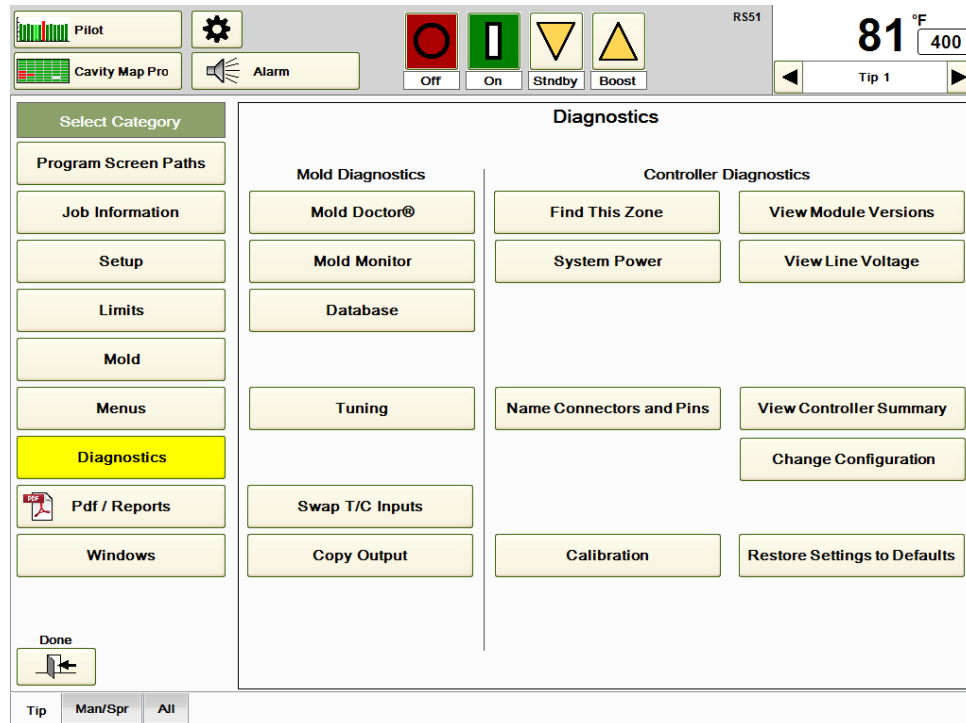
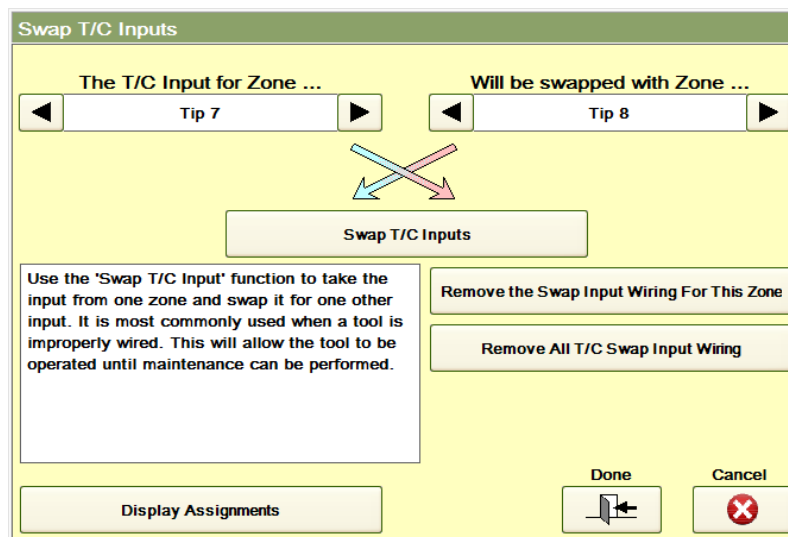

Figure 19a Diagnostics
Figure 19b Swap Inputs
Swap T/C Inputs: Press this button shown in Figure 19a to see the screen shown in Figure 19b. This screen can be used to change the assignment of thermocouples to zones. It is most
commonly used when it is discovered that two or more thermocouples are wired incorrectly in the tool. Instead of taking the time to open the tool and correct the problem, it may be desirable to temporarily change the thermocouple assignment in software. In Figure 19b, the example shows how to swap thermocouples on Tips 7 and 8 using the following procedure:
- 1) Select one of the two zones that are to be swapped (Tip 7 in Figure 19b).
- 2) Select the other zone that is to be swapped (Tip 8 in Figure 19b).
Name Connectors and Pins: Press this button shown on Figure 19a to display the screen shown in Figure 19i. This table shows the layout and names of the controller's cable connections. Inputs and outputs cannot be moved using this screen. That has to be physically done or done by using the swap input and copy output % features. This screen is just about labels. If the operator wants to change the labels on the controller, the labels can be renamed here as well. In the example shown in Figure 19i, the controller heater (power) connectors have been originally been labeled PWR A, PWR B, PWR C and PWR D. They can be renamed to PWR 1, PWR 2, PWR 3 and PWR 4 by using the following procedure: